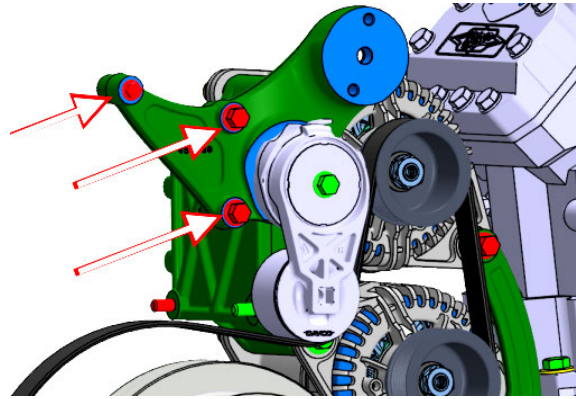

FIGURE 11
16. Remove the alternator belt tensioner bracket assembly. To do so, remove the three bolts identified with arrows on FIGURE 11.